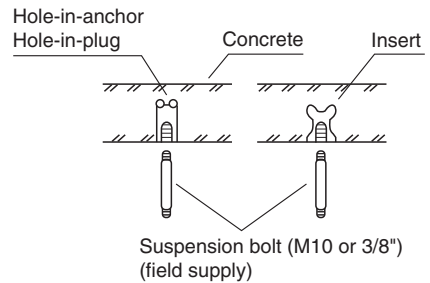

Fig. 3-17
- (1) Follow the diagrams to make the holes in the ceiling.
- (2) Depending on the ceiling type:
- Insert suspension bolts as shown in Fig. 3-17